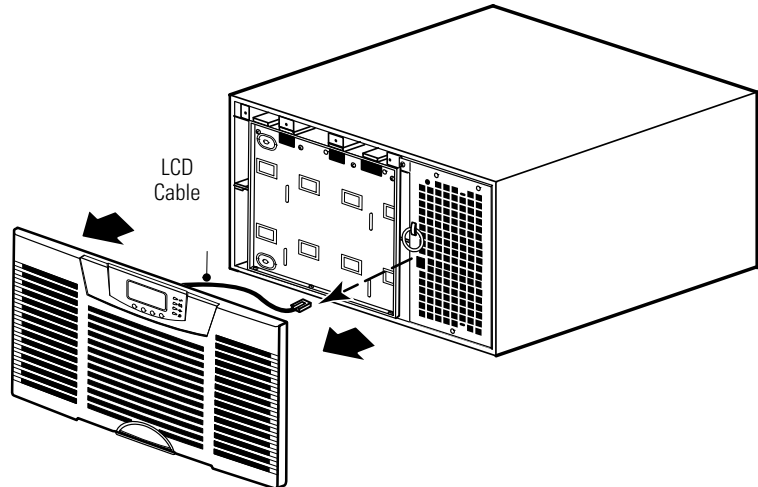

Figure 15. Removing the UPS Front Cover
2. Remove the UPS front cover and set it aside (see Figure 15).